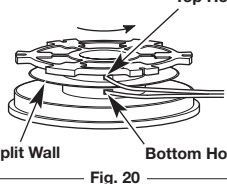

Fig. 20
2. Using one split end, insert one line into the top hole and the other line into the bottom hole in the inner reel (Fig. 20).